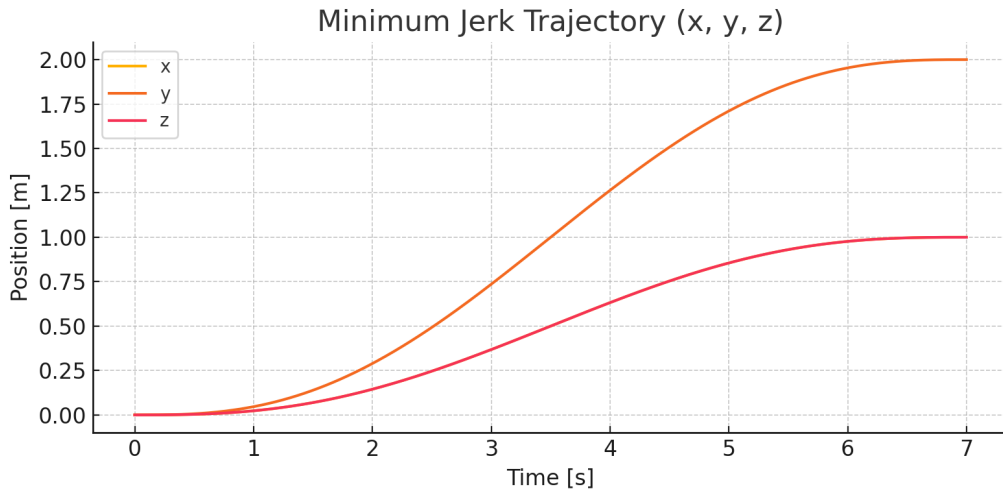

Figure 2: Planned minimum-jerk trajectory for x, y, z coordinates ($T = 7$ s)
- Smooth trajectory execution with minimum-jerk profiles (Fig. 2)